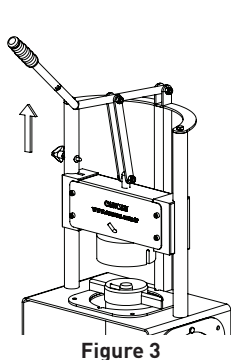
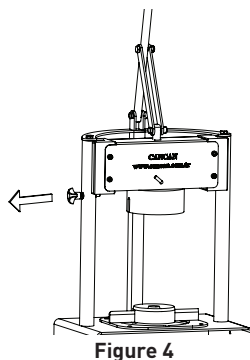

Figure 3
Figure 4
- Lift up the arm of your product with one hand on the vertical axis (**Figure 3**). When the pusher slide is positioned up on the vertical axis, the automatic locking pin indicated by the arrow will be activated. This will prevent the falling down of the push wedge. To peel the fruit, pull the Security Locking Screw on the left of the Peeler and press the lever downwards (**Figure 4**).